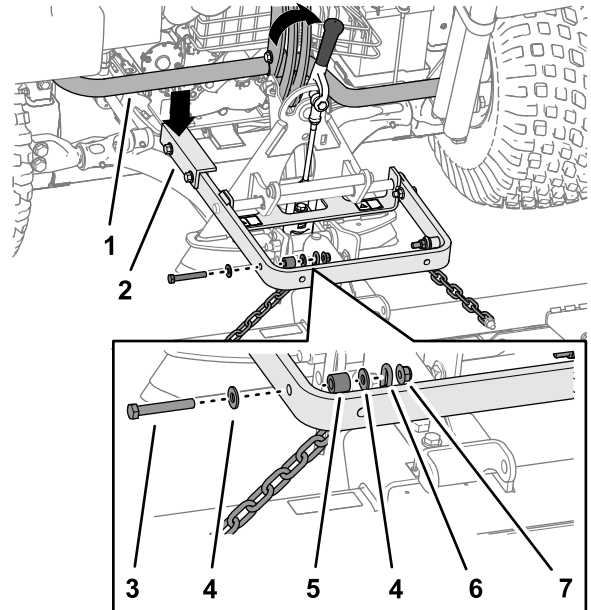

Figure 6
**Important:** The long arm of the lift arm assembly must be under the traction unit rear frame assembly (Figure 6).
Always lift and move the attachment using the handle on the back of the attachment adapter (Figure 6).
5. Secure the top link of each chain to the outside of the lift arm (Figure 6) using a bolt (3/8 x 2-1/2 inches), 2 washers (3/8 x 7/8 inch), a spacer, and a locknut (3/8 inch).